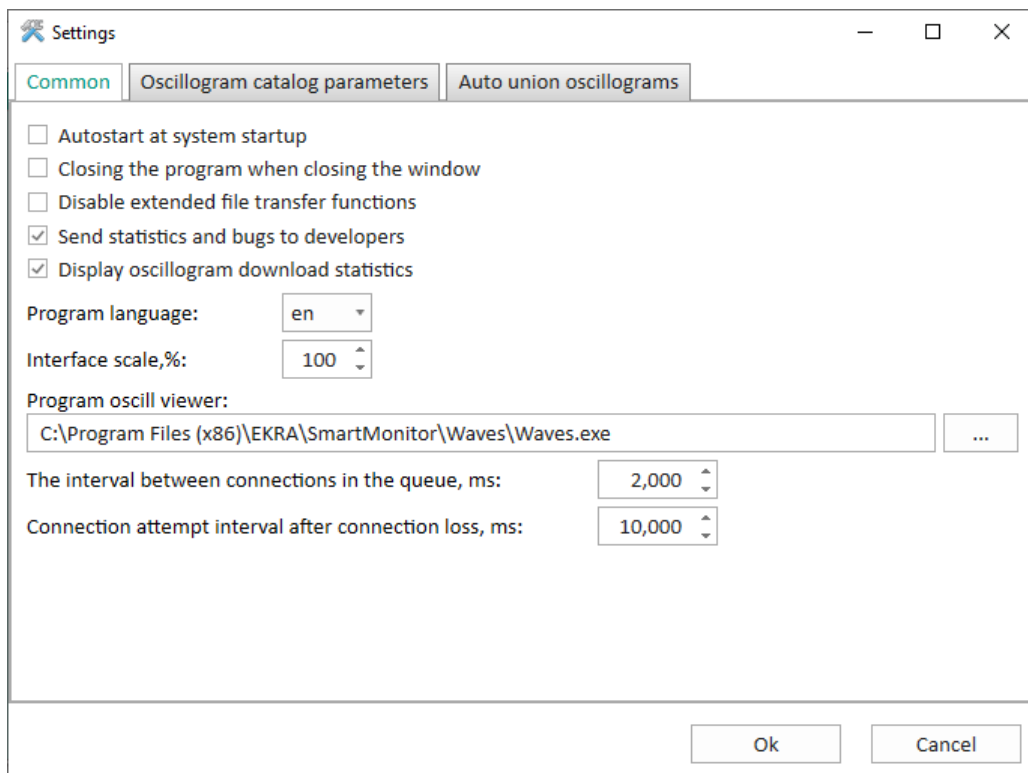

Figure 269 – General settings of the program
3) Settings of the program  (figures 269 – 271).
The description of general settings of the program (Figure 269) is given in table 163.